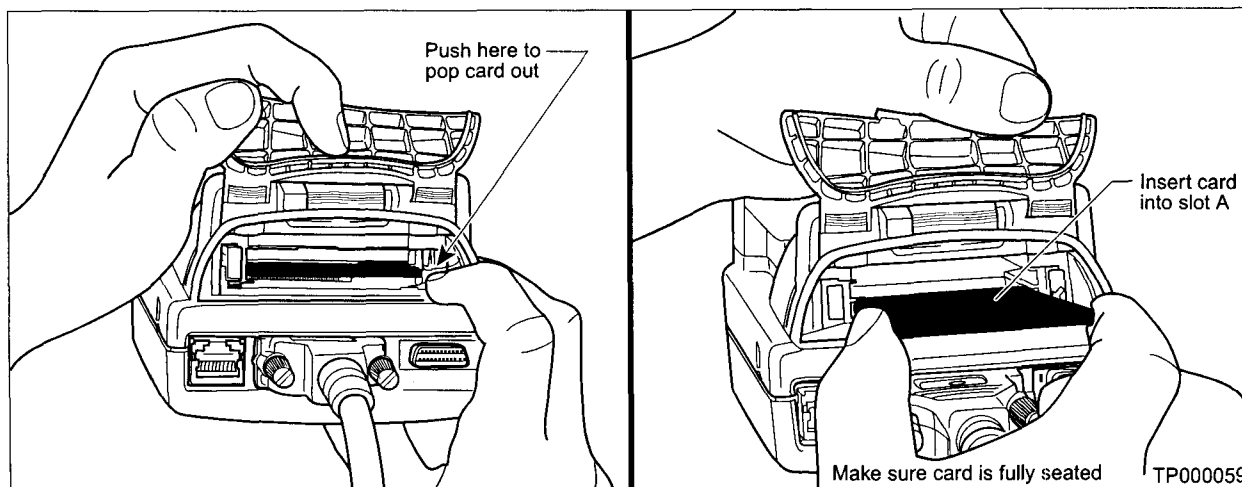

Figure 17
23. Remove the Diagnostics (blue) card from slot A of CONSULT II and install the ECM Reprogramming card (orange) into slot A (see Figure 17).